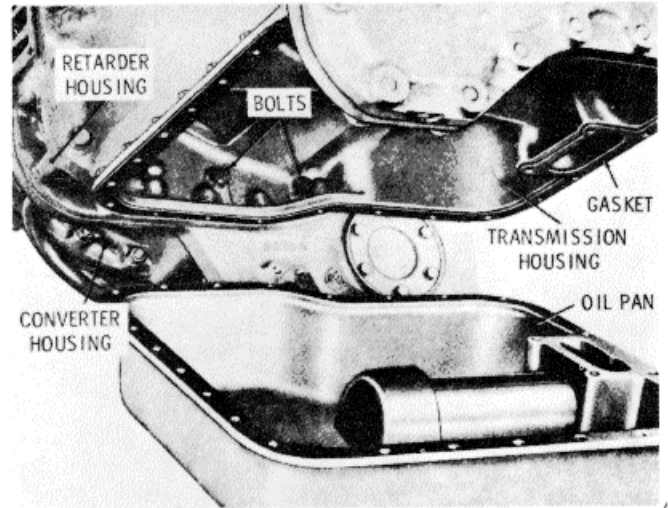

Figure 15-42. Removing Transmission Oil Pan
12. Remove twenty-eight bolts 11 and 13, and washers 10 and 12, from the transmission oil pan. Remove the pan and gasket (Figure 15-42).
13. Remove the two hidden bolts and lockwashers that become accessible when the oil pan is removed (Figure 15-42).